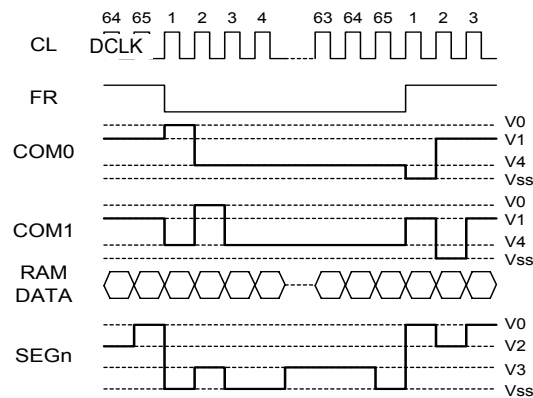

Fig. 6 Drive wave from a two-frame AC drive method
Moreover, the display timing generator circuit generates the common timing and the liquid crystal alternating current signal (FR) from the display clock. It generates a drive wave from using a two-frame alternating current drive method, as shown in Figure 6, for the liquid crystal drive circuit.